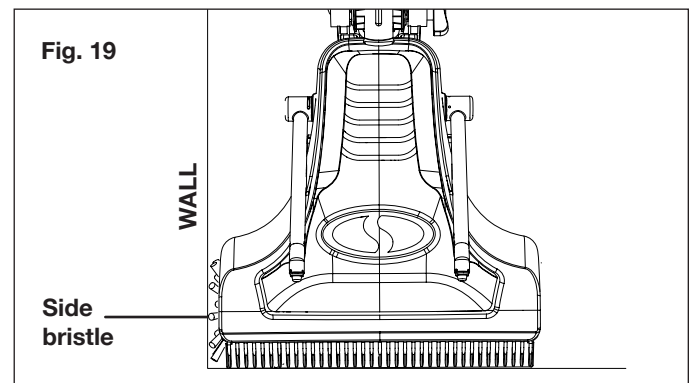

Fig. 19
6. The rotating brush is equipped with side bristle on one side, which is used for cleaning the bottom of walls and steps. Walk slowly along the wall and guide the side bristle to brush the area to be cleaned (Fig. 19).